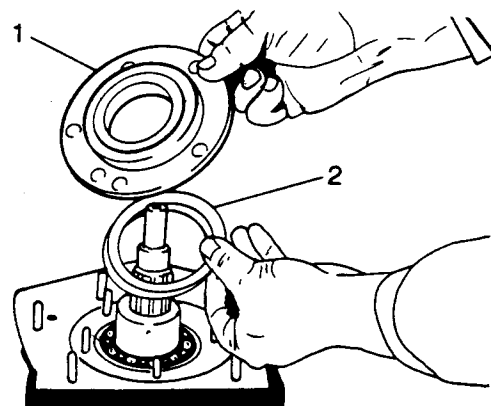

Fig H1.52
- (2) Refer to Fig H1.52. Fit the cover (1) with the adjusting washers (2) for the rear main shaft bearing and put a film of SAE 90 EP oil on the lips of the oil seal.
- (3) Fit the cover fixing nuts and tighten to a torque of 20 to 30 N.m.
- (4) Fit the transfer gear with its nuts and tighten this to a torque of 130 to 170 N.m.